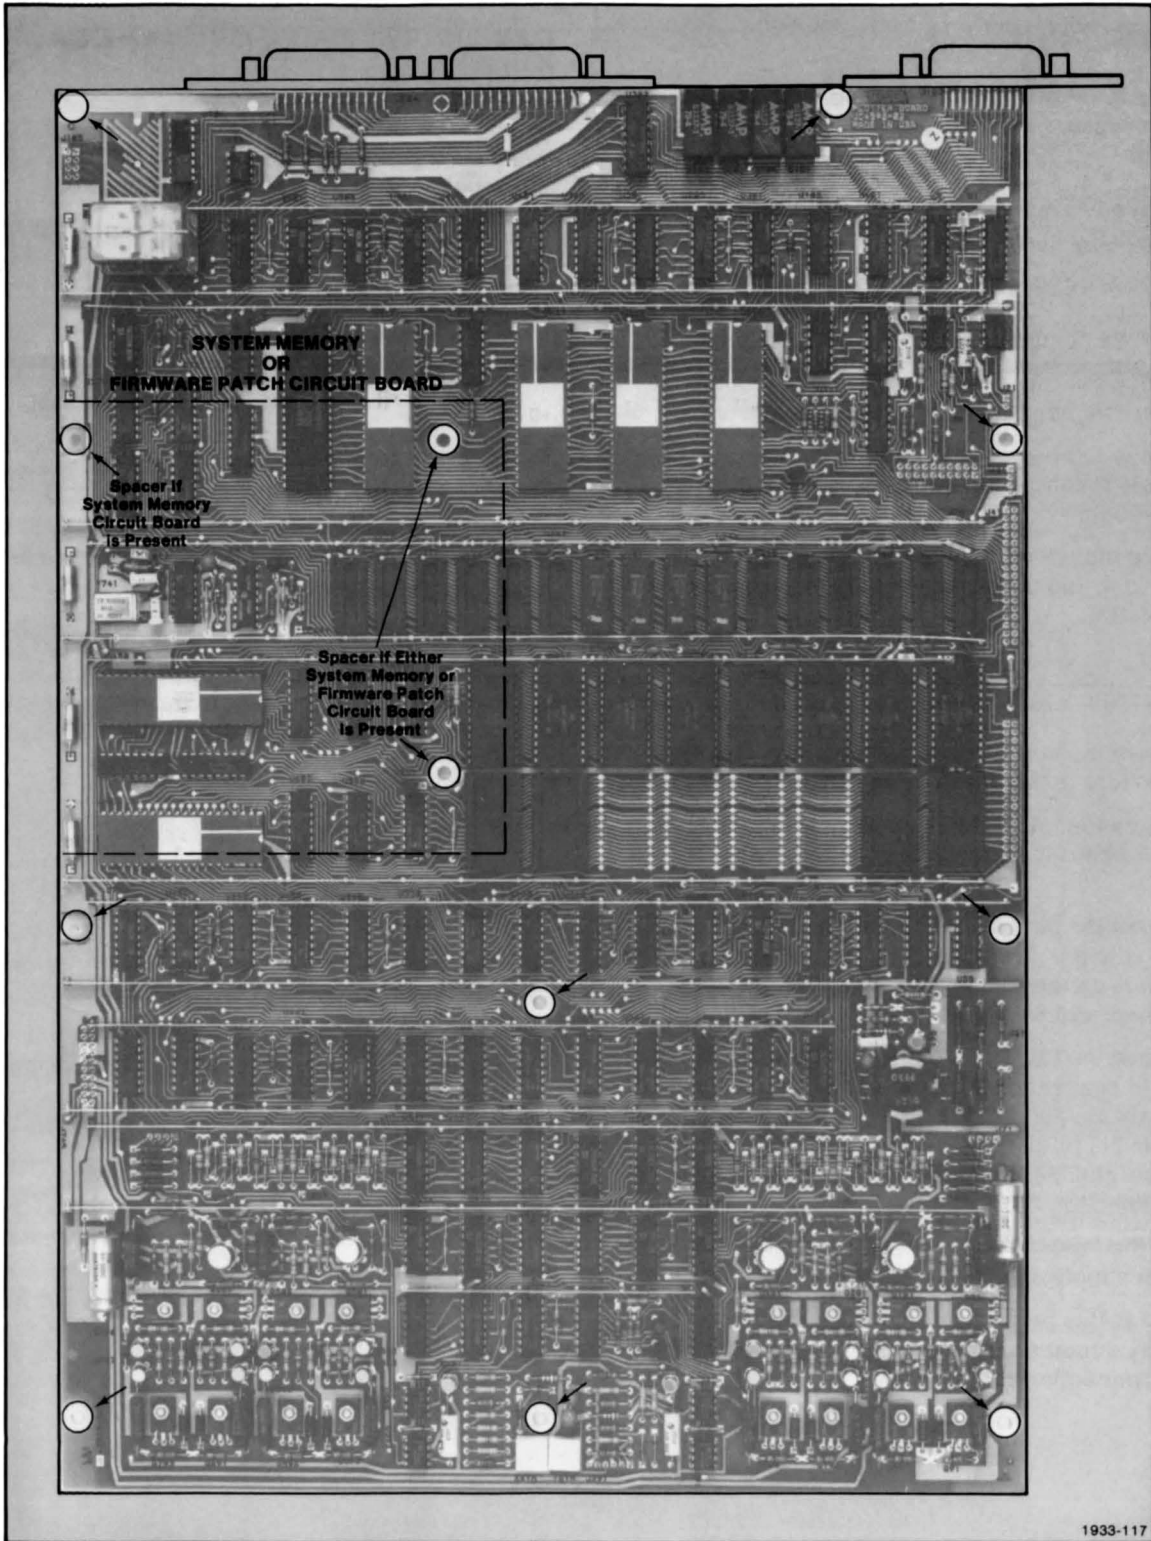

Figure 3-10. Plotter Circuit Board Screw Locations.
6. **Remove** the 12 screws holding the Plotter circuit board to the spacer posts underneath the board (see Figure 3-10). If the plotter was equipped with either the Firmware Patch circuit board or the System Memory circuit board, two or three of these screws will be spacer posts that must be removed.